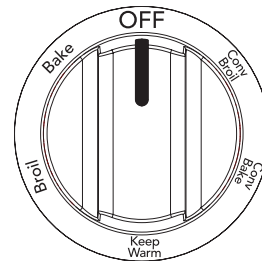

Figure 20: Oven mode knob
3. Turn the oven mode knob to the conv bake position (Figure 20).